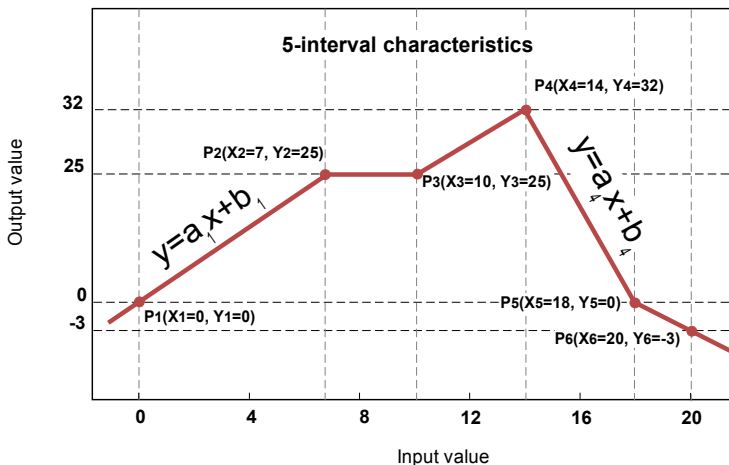

Fig. 7.32. Example of user characteristic
d) user characteristics - is defined as set of X-Y points. Number of the points is variable and may be set from 2 to 20 points which make linear segments (see Fig. 7.32). For 2 points the user characteristic behaves like a linear process (see subsection **b**)). For more than 2 defined points the user characteristic is a composite of the line characteristics therefore for input value '**x**' the user obtain an output value '**y**' which is described by the relationship:
, where '**a**' and '**b**' are coefficients of a segment contained between two points (see Fig. 7.32), and **n = 1, 2 ..** is the number of the segment.